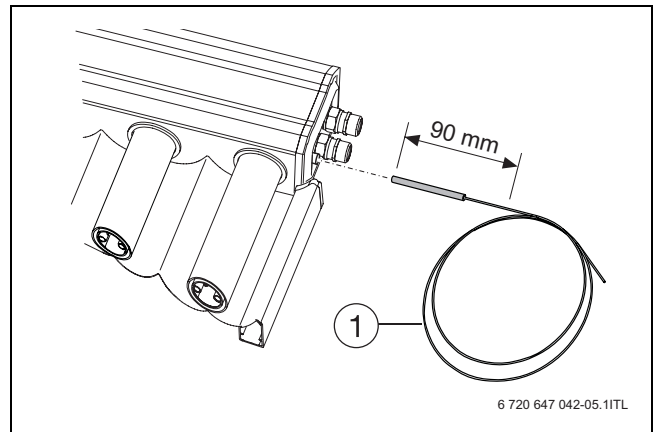

Fig. 34 Installing the collector sensor
- ▶ Push the collector sensor (→ Fig. 34, [1]) 90 mm into the sensor well (as far as it will go).